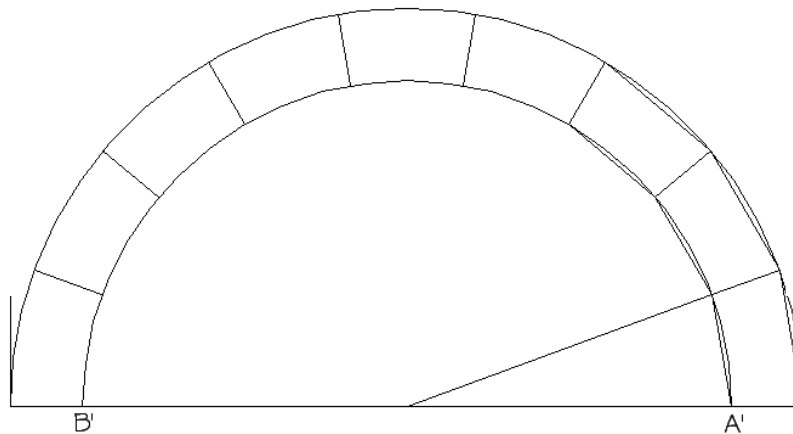
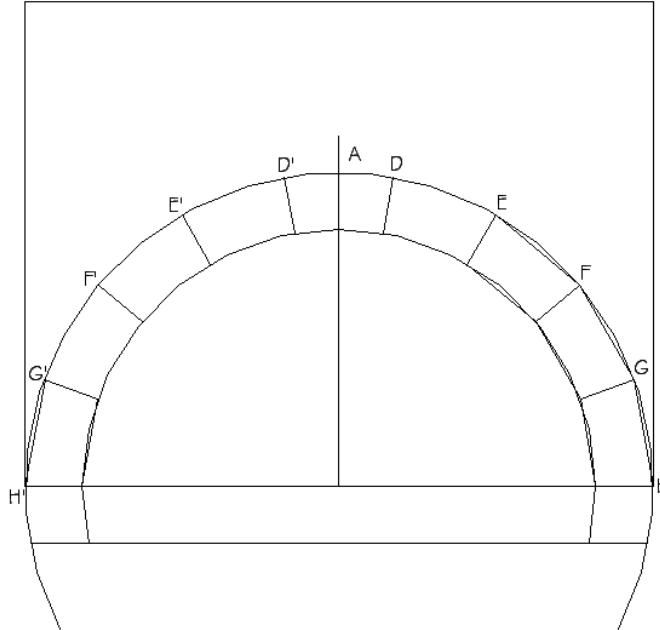
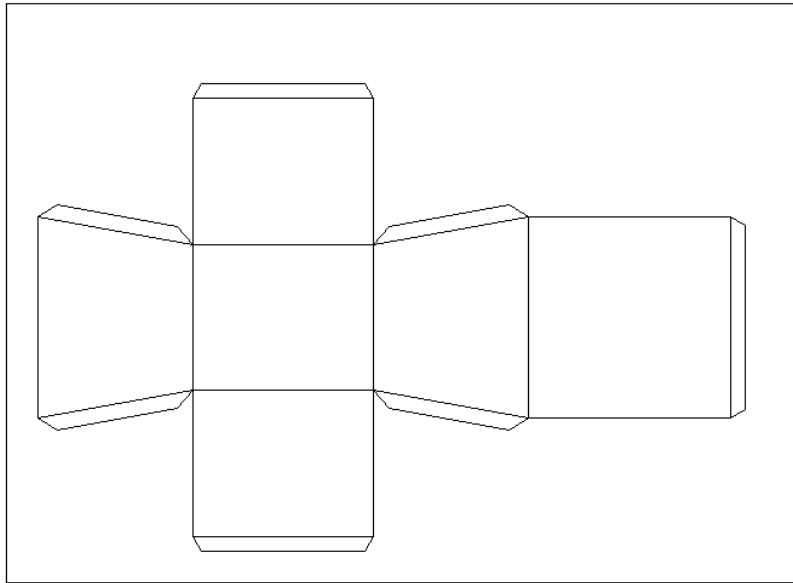
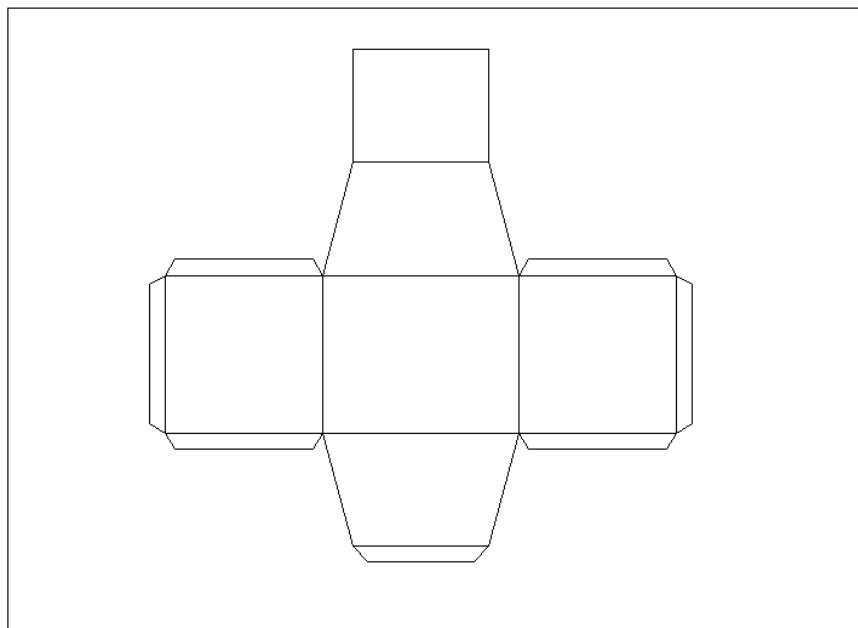

Figure 13.1
Figure 13.10
Figure 13.16a
Figure 13.16b
1. There are several ways of designing a semicircular arch, from the very simple to the rather complex, the latter offering somewhat more fascinating possibilities. But let's start with a very simple design on poster board. Refer to **Figure 13.1**, in which the rectangle represents the 8 to 5 inch ratio described above, so you can use the pattern for a small or a large arch. From center point X on the base line spin a half-circle corner to corner (A to B), and another half-circle one inch inward (A' to B').
4. By placing a protractor on the base line of **Figure 13.1** centered on X, mark off the 9 voussoirs 20 degrees apart. You can then square off these voussoirs as we have done with the first few on the right side. Why square them off? Simply because straight cardboard cuts are much easier, faster, and more accurate. Also, cardboard doesn’t bend very easily. However, poster-board does, and there is no reason why you can’t have an attractive curved desk-top arch in poster board. We’ll provide a template for this a little later on.
11. Now, set your compass to the distance of arc AD , with the point at A . Mark off the keystone by spinning a half-circle over to D' on the other side of the perpendicular. The keystone chord DD' can now become the official size of all the voussoirs, and so we can mark off these chords all the way down both sides of the arch, ignoring all other marks: DE , EF , FG , GH down the one side, and $D'E'$, $E'F'$, etc., down the other. You will note that the lowest arcs on each side cross over the base line, and we have used these to create two attractive impost blocks, which rest on a new base line, $H'H$. Be careful to be exact, so that all your voussoirs are identical! (**Figure 13.10**). Square off the inner and outer arcs with chords, and your arch design is ready for the next stage. Enlarge one of the Impost block panels and one of the voussoir panels to the scale you desire, and use these as we've instructed to make the desired number of units: two impost blocks,
2. **Figure 13.16a** and **13.16b** are templates for the arch design shown in **Figure 13.10**. This differs from **Figure 13.1**, in which all 9 voussoirs are identical and there are no impost blocks; this version has impost blocks and 7 voussoirs. **Figure 13.16a** is pattern for the impost block, two of which are necessary for the model. **Figure 13.16b** is the voussoir pattern, and you will need to make seven of these. You can enlarge these patterns on a copy machine, or with the use of compass and ruler, transfer them to poster-board or even to large sheets of corrugated board to make a simple arch of most any size. As we said earlier, you will want to brace both ends of the arch, so that it will not splay out. Filling the impost blocks with sand or marbles will do the trick.